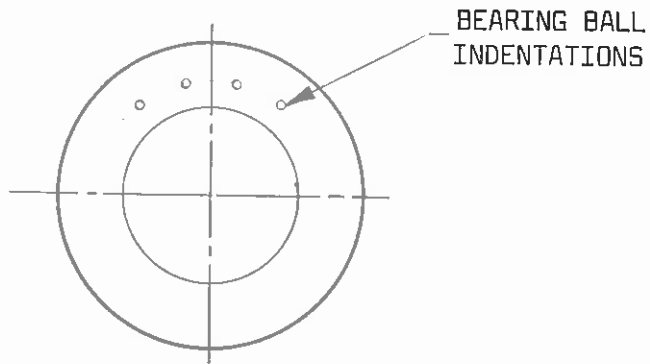

FIG 2
- i) Indentations, ref Fig. 2. If any found, replace with new component.